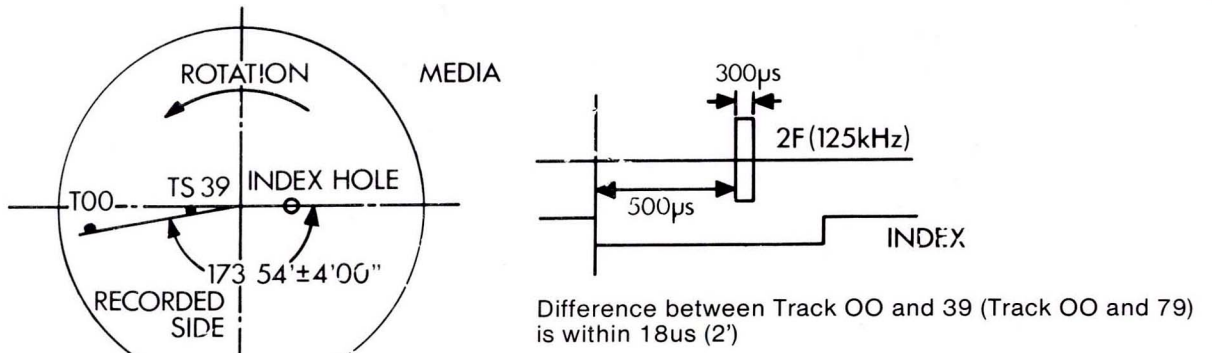

Fig. 2 Waveform of T39 (Index pattern – Radial alignment)
2. Adjustment of the index burst by use of Track 39 (Fig. 2). (Track 79, 159).	○
- 4) Adjust OO Sensor (8 on Fig. 6) so that scope shows correct difference as Fig. 2.